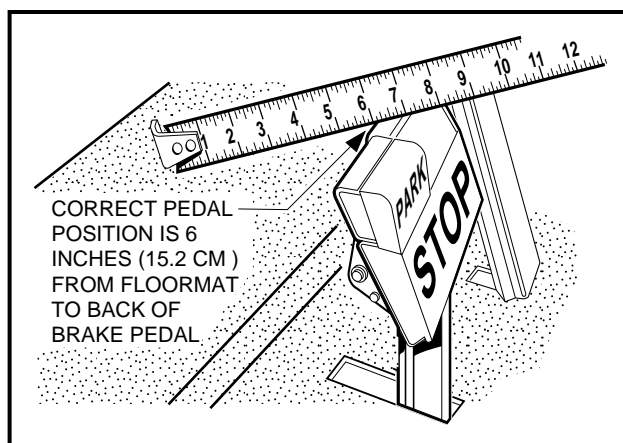

Figure 5-21 Pedal Position
4. Adjust brake pedal height to 6 inches (15.2 cm) (**Figure 5-21, Page 5-13**).